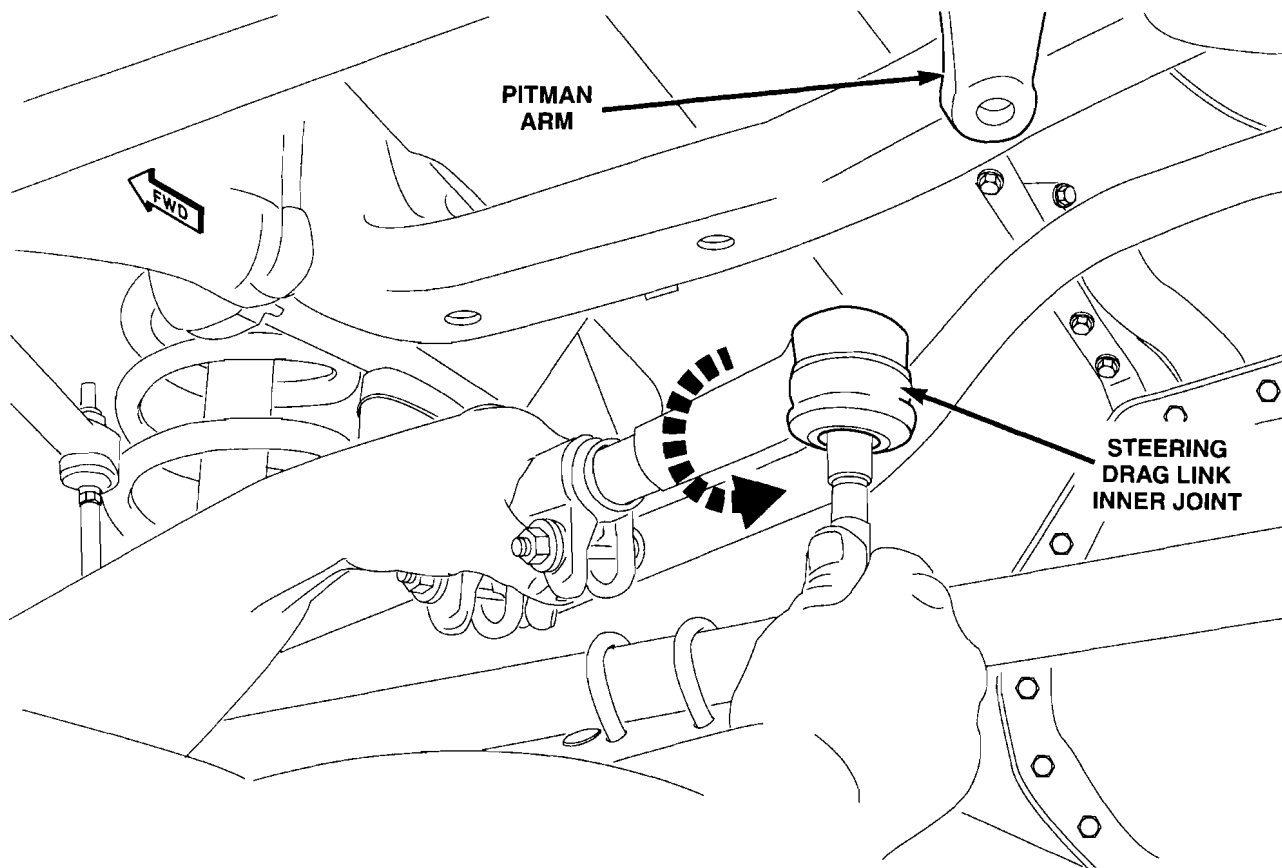

Figure 5
d. While counting the number of turns, unscrew the steering drag link inner joint from the drag link adjuster sleeve (right handed threads) (Figure 5).